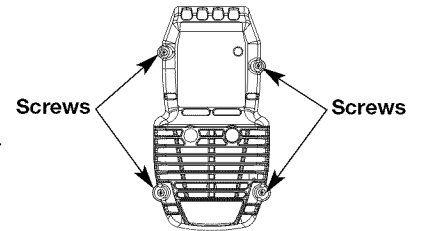

Fig. 13
1. Remove the four (4) screws securing the air filter/muffler cover (Fig. 13). Use a flat blade or T20 Torx bit screwdriver.
- Insert the four (4) screws into the holes in the air filter/muffler cover (Fig. 13) and tighten. **Do not over tighten.**
- Reinstall the air filter/muffler cover (Fig. 13).